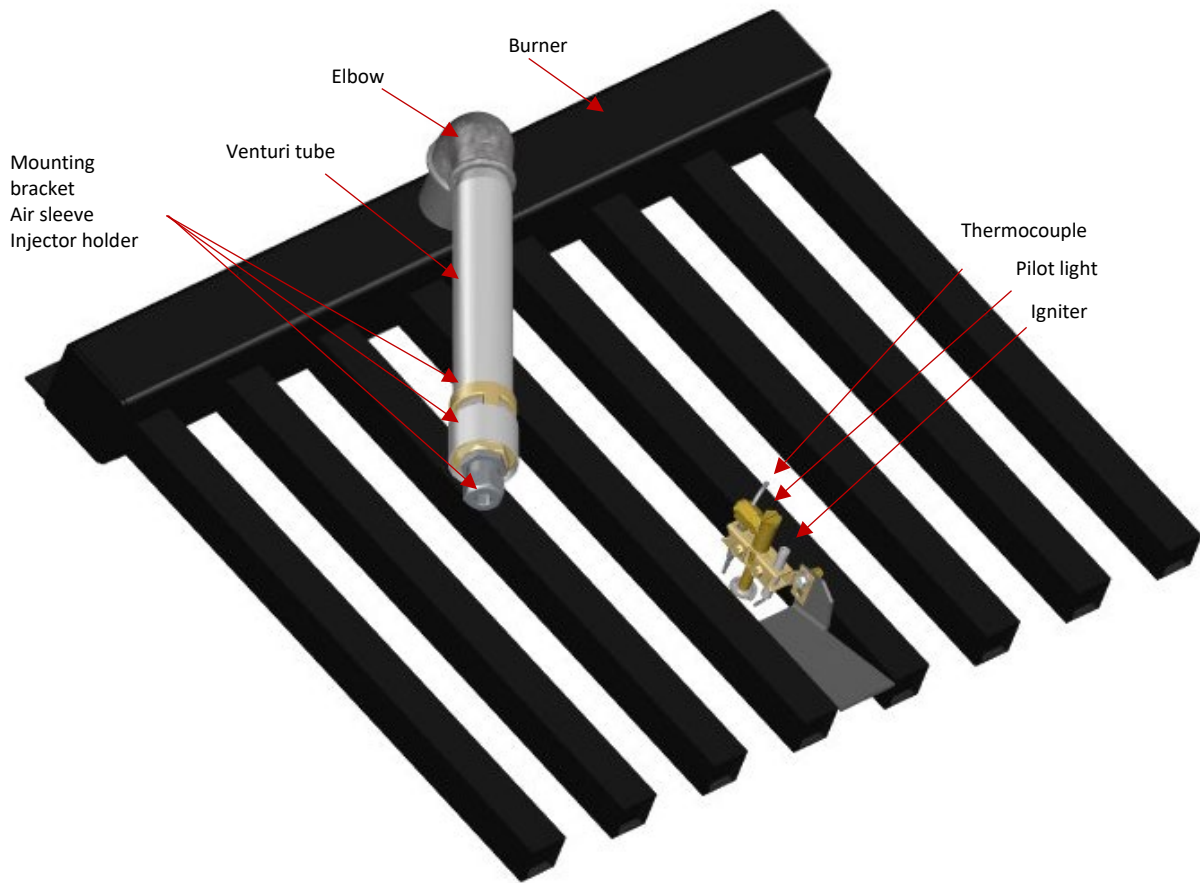

Fig1
- Fig1 burner with 1 venturi outlet (Fig1 showing the bratt pan burner 33dm²)